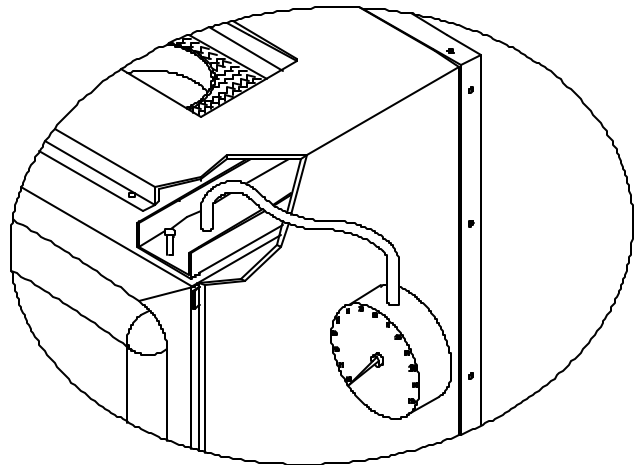

Figure 18 : Draught test
- Measure the draught by using the hole made in the burst disc plate designed for this purpose. (see figure 18).